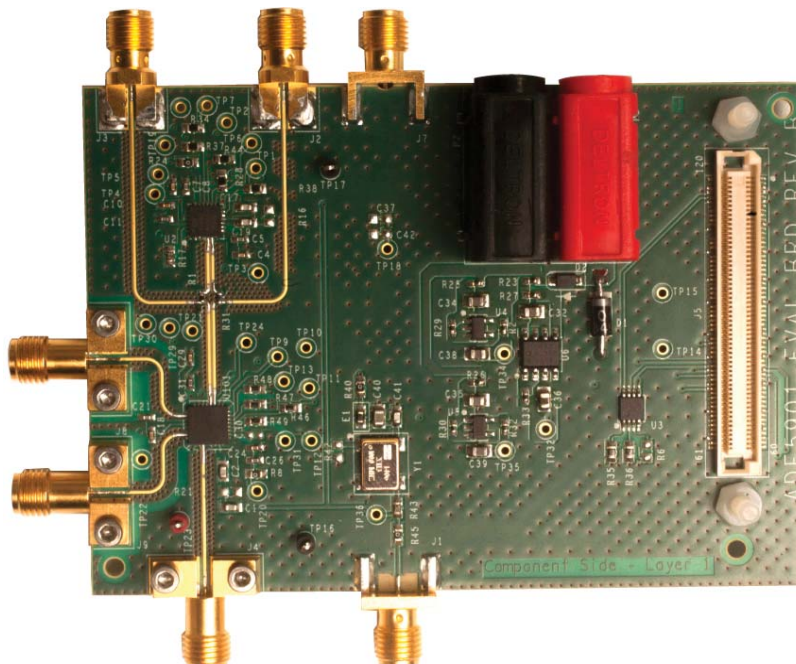

Figure 1.
The **EV-ADF5901SD2Z** evaluation board allows the user to evaluate the performance of the **ADF5901** 24 GHz VCO and PGA with a 2-channel PA output. Figure 1 shows the **EV-ADF5901SD2Z**, which contains the **ADF5901**, the **ADF4159**, three high frequency, K-type SMA connectors for the local oscillator (LO) output and two transceiver (Tx) outputs, two high frequency SMA connectors for the AUX and the AUX outputs, banana connectors for power supply, and a connector for the serial interface.